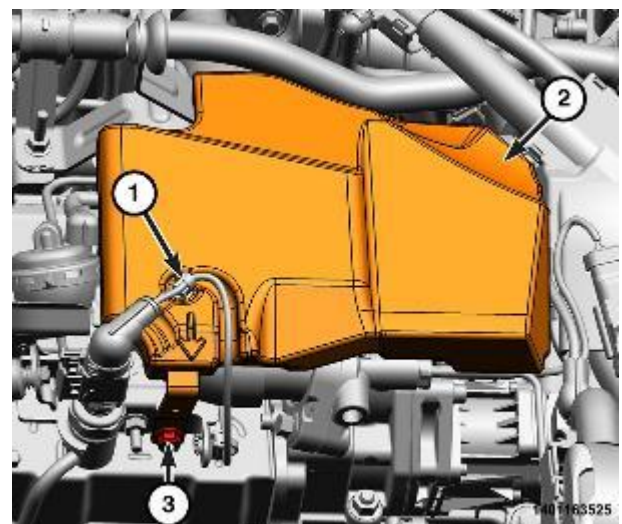

Figure 105 – Fuel Rail Cover
23. Loosen the fuel rail cover nut (3), detach the wire harness retainer (1) and remove the fuel rail cover (2) (Figure 105).